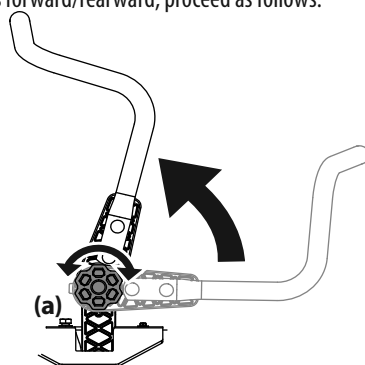

Figure 8
1. Rotate the knob (a) counter-clockwise to loosen the knob (a). See Figure 8.
3. Rotate the knob clockwise to secure the lapbar drive control lever into position. See Figure 8.